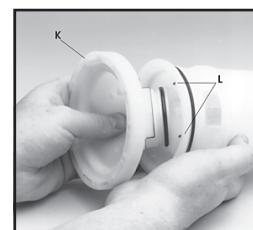

Figure 20
- 9) When reassembling the pump housing to the pressure cylinder, be sure the square tab on the pump housing (K) is aligned in the notch. See arrows (L) on the pressure cylinder in Figure 20. Be careful not to pinch or nick the O-ring.